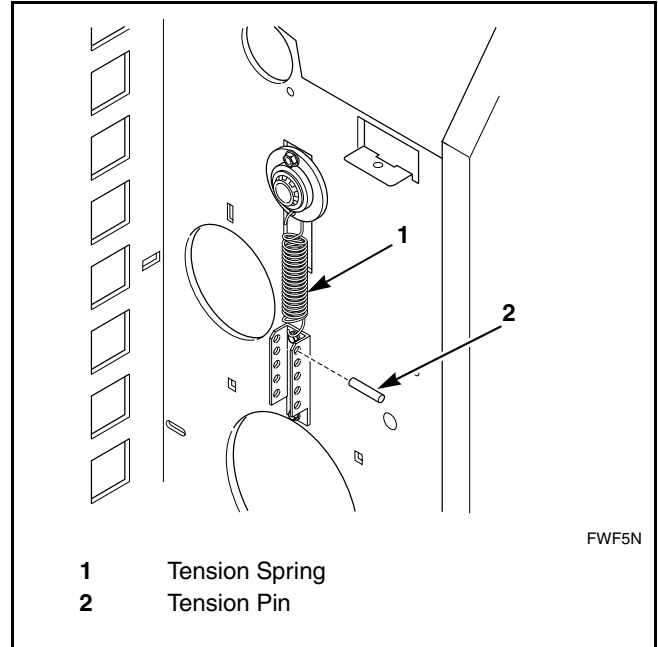

Figure 10
- c. Unhook the ironing band tension spring from the tension pin on each side of finisher. Refer to *Figure 10*.